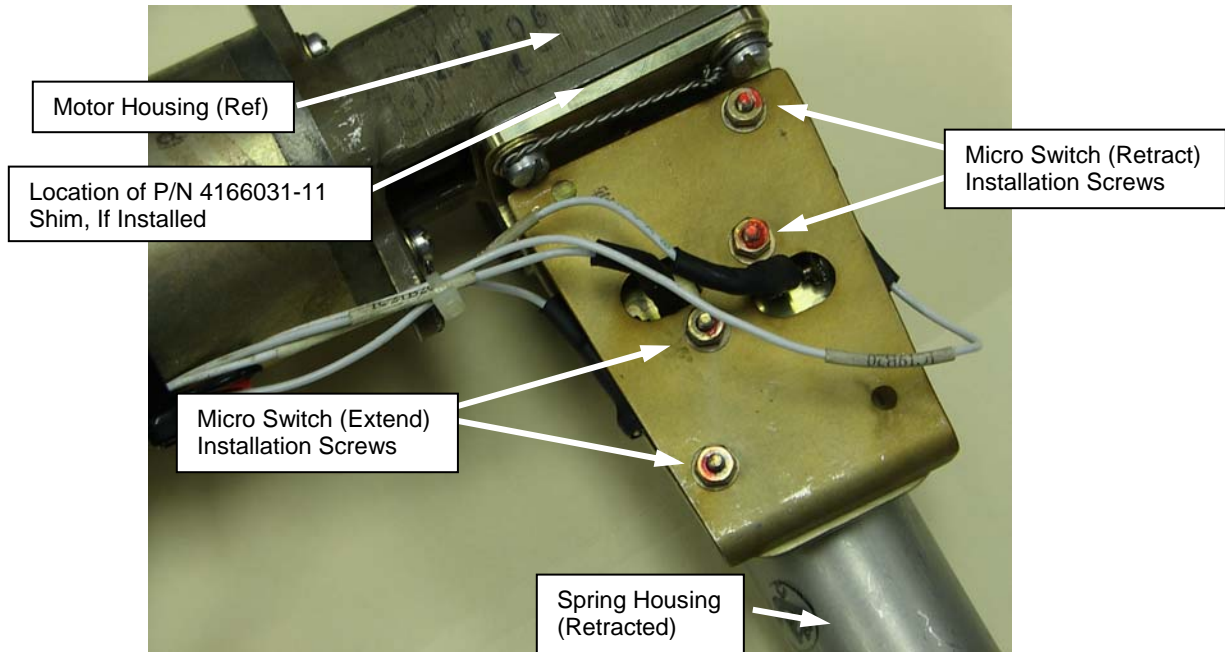

Figure 3: Trim Actuator Assembly (Lateral Trim Actuator Retracted)
1. To adjust the spring housing travel, loosen the switch mounting hardware to set the switch position(s) as necessary to bring the spring housing travel within limits. For example, to shorten the spring housing extension, loosen the switch mounting hardware for the extending switch and adjust the switch position inward (Figure 3).